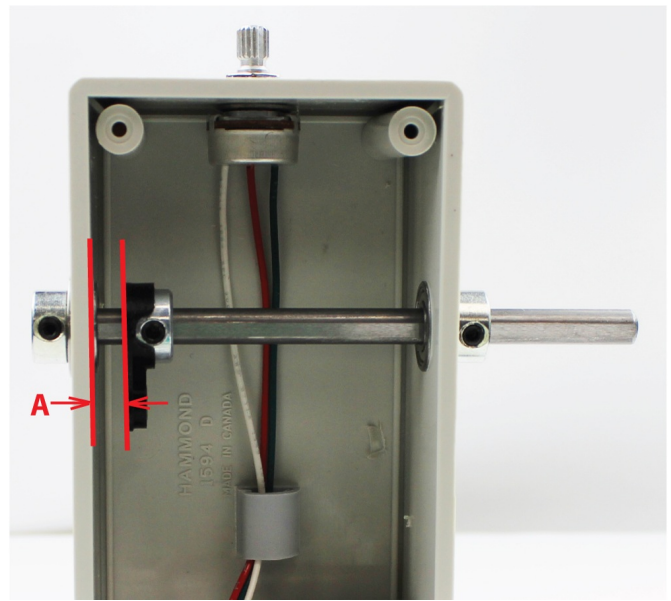

fig 10
- 3) Slide the Hall trigger onto the main shaft with the collar part away from the side wall (fig 10).